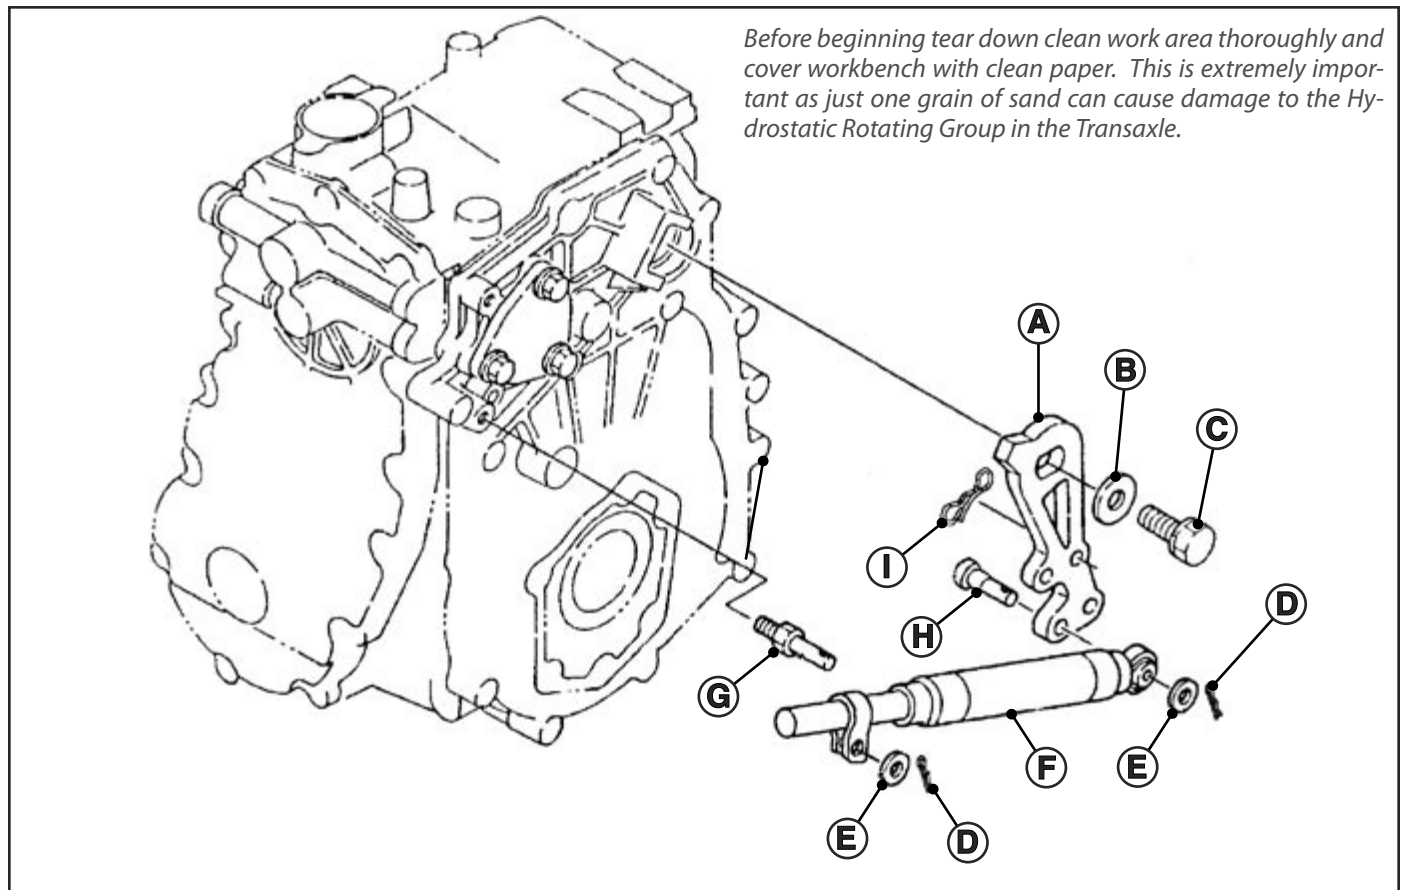

Fig. 1, Control Arm and Damper Disassembly
1. Remove spring locking pins (D) and washers (E) from both sides of damper (F). (Fig. 1)
2. Slide damper off of pivot stud (G) and clevis pin (H). Inspect and, if defective, replace damper as an assembly.
3. To remove control arm (A), remove spring locking pin (I) and disconnect foot control rod (D) from control arm.
4. Remove cap screw (C) and washer (B) from control arm. (Fig. 1)
5. Remove control arm (A). (Fig. 1)
6. Install control arm the same as removal, and install washer and cap screw. Tighten cap screw (C) to 73 N•m (54 lb-ft).